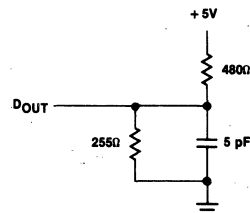

Figure 2. Output Load for t_{HZ}, t_{LZ}, t_{wz}, t_{ow}
3. Transition is measured ± 500 mV from steady state voltage with specified loading in Figure 2. This parameter is sampled and not 100% tested.